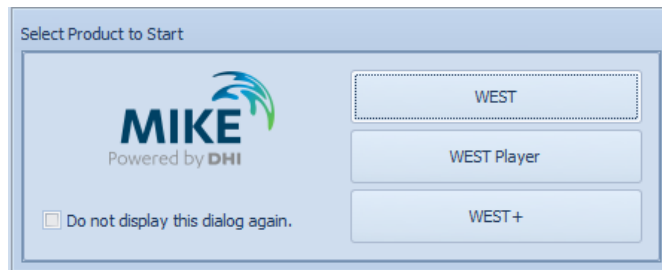

Figure 3.1 Product Selection at start-up
3. In case your licence includes more than one product: select one of the products enabled in your licence (Figure 3.1).